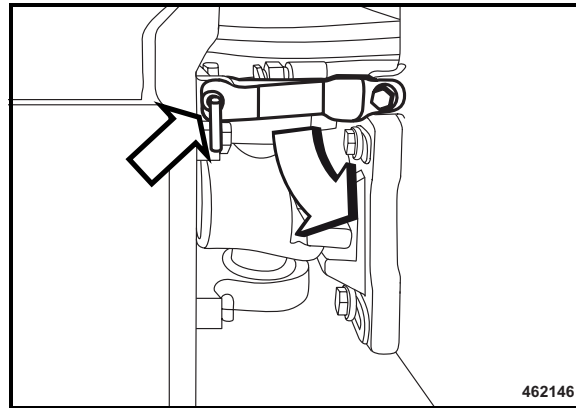

Fig. 110
- After transportation loosen the articulation lock (Fig. 110).